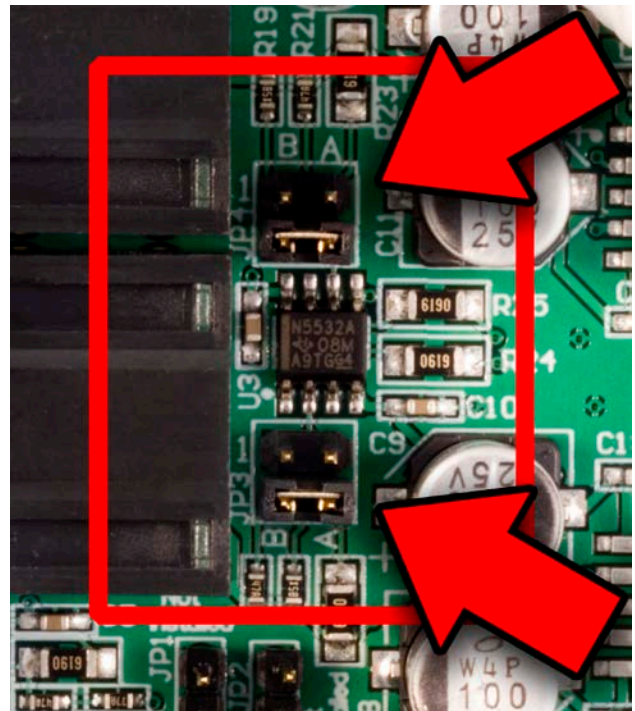

Figure 5 - **HPA2™** Gain is - 10 dB
- **Gain = - 10 dB** - see **Figure 5** (Factory Default)